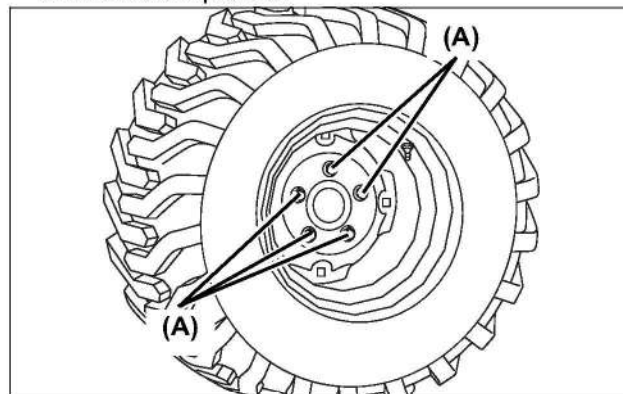

Fig 12-2
- Tighten the rear wheel bolts (Fig 12-2, A) in a crisscross sequence.